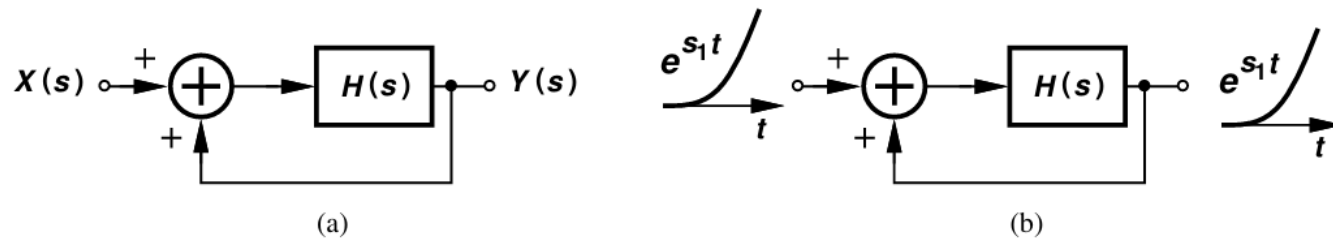

Figure 5.10 (a) System with positive feedback, and (b) growing exponential circulating around the loop.
- For feedback loop in Fig 5.10 (a)